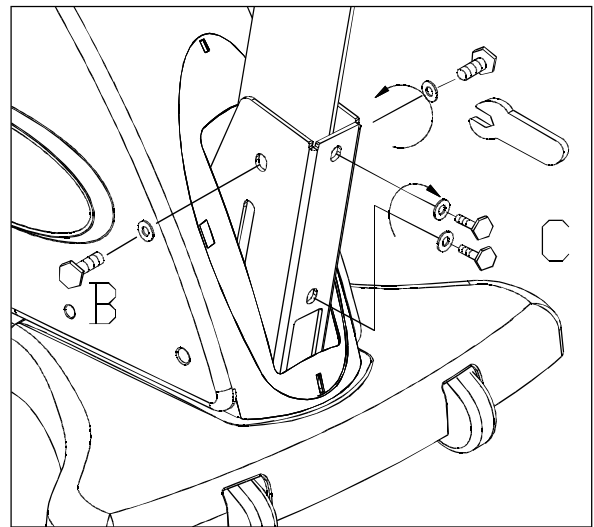

Fig.4
- ② Tighten bolts in position C as shown in Figure 4. Then secure bolts in positions A and B, as shown in Figure 4.